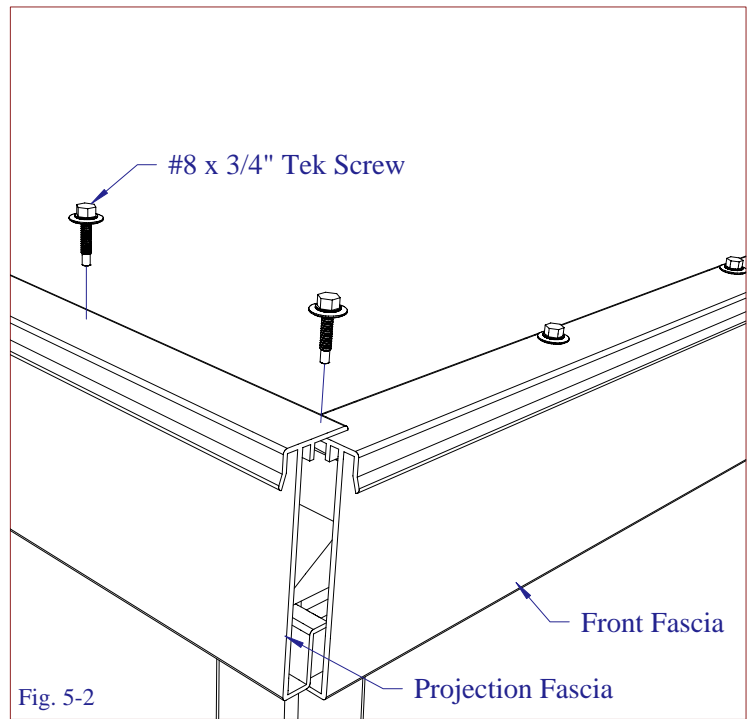

Fig. 5-2
- Attach the projection fascia to the front fascia and mounting channel with a #8 x 3/4" Tek Screw through both pieces (see Fig. 5-2).